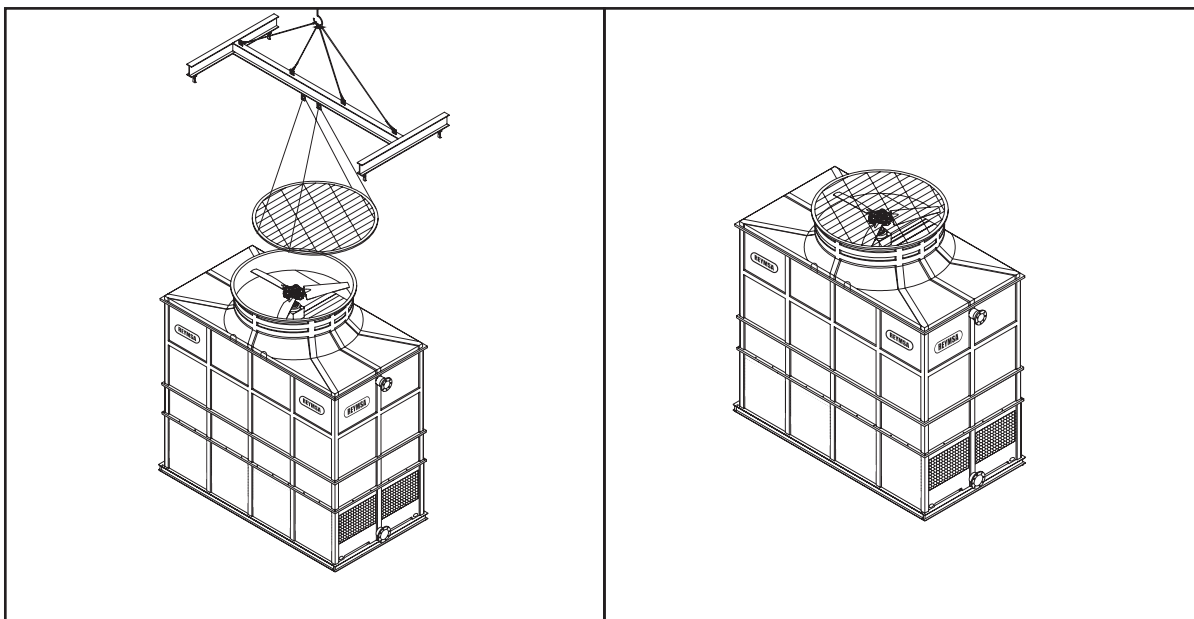

Figure A-81: Screen mesh assembly for an RTGM model.
- R. Place the corrosion resistant safety screen mesh on top of the Fan Deck Section (see figure A-81).